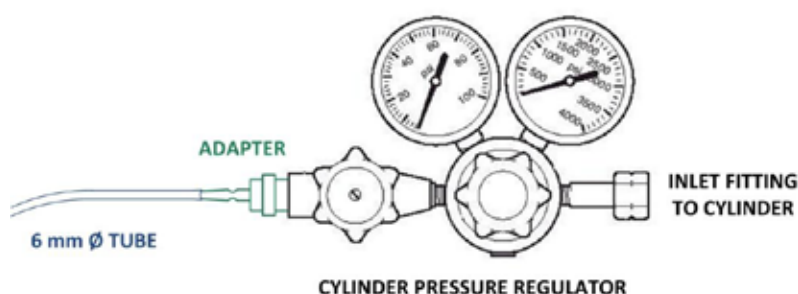

Fig 3
1. **Gas cylinders** - Close the cylinder's main valve. Take a 6 mm external diameter tube and proceed connecting it to the cylinder pressure regulator. For a safe connection a specific rubber holder adapter is usually required (Fig. 3). This procedure must be repeated for each gas cylinder in use.